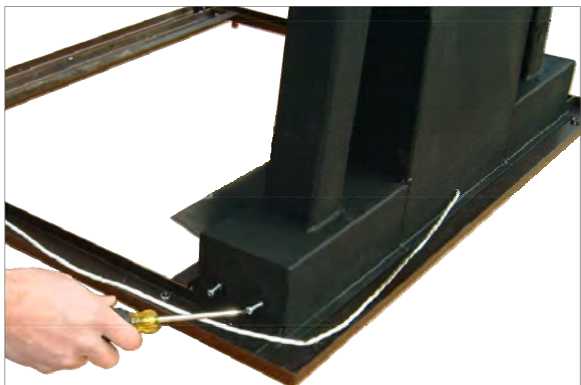

Figure 1
- Align the Heat Exchanger/Blower Unit with the flanges on the back of the enclosure frame and set between the flanges. **(Figure 1)**
- Fasten the Heat Exchanger/Blower Unit with four (4) sheet metal screws through the pre-drilled holes in the flanges. **(Figure 1)**